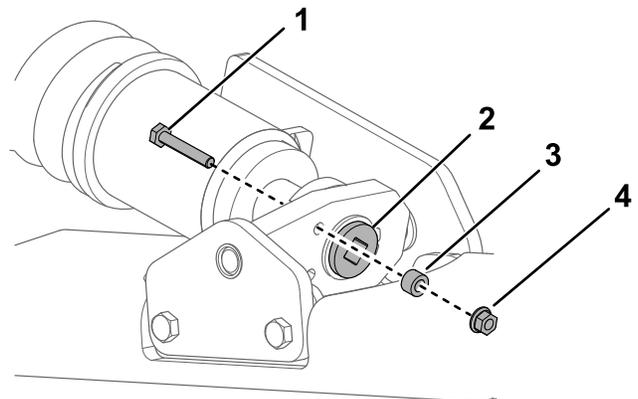

**Figure 56**
Lift/support 1 side of the machine and using the weight of the track, verify that the gap between the bottom of the lip of the road wheel and the track is 13 mm (1/2 inch) as shown in Figure 56. If it is not, adjust the track tension using the following procedure.
- Using a 1/2 inch drive ratchet, turn the tensioning screw until the track deflection is 13 mm (1/2 inch) as shown in Figure 56.
- Verify that the track deflection is 13 mm (1/2 inch) as shown in Figure 56. Adjust if necessary.
20. Using a 1/2 inch drive ratchet, turn the tensioning screw counter-clockwise until the track deflection is 12.7 mm (1/2 inch) as shown in Figure 56.
25. Verify that the track deflection is 12.7 mm (1/2 inch) as shown in Figure 56.